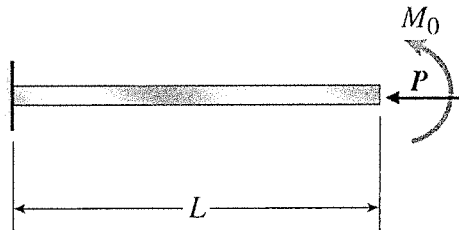

Figure 2: A beam of length L subject to an axial compressive force P and a bending moment M_0 at the free end.
6. [10 points] Consider a long elastic beam/column of length L and flexural rigidity EI . The beam is held fixed into the wall at one end and is free at the other end. An axial compressive force P and a bending moment M_0 are applied at the free end as shown in Fig. 2.